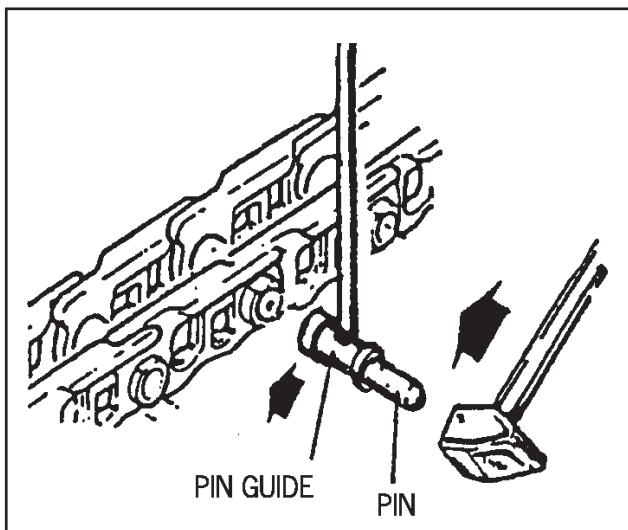

Fig. 3-10 Master Pin - removal
3. Locate the master pin and position pin between the sprocket and support roller. It is easier to access the pin by removing the track shoes directly above the pin (fig. 3-12). Drive the pin out with a hammer and driving pin (fig. 3-10).